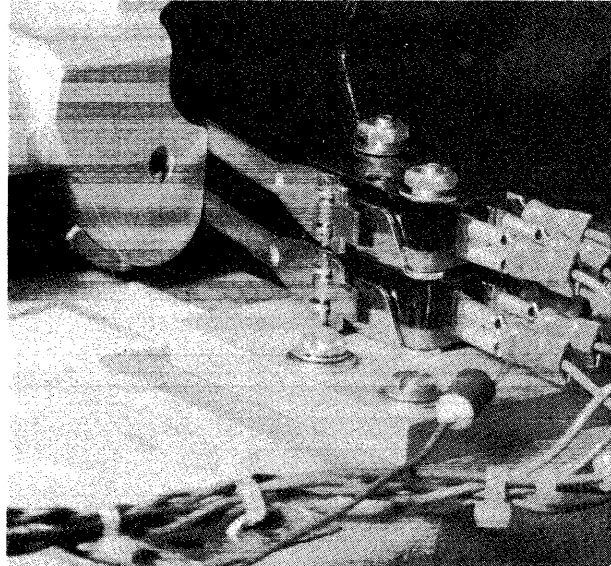

Figure 5-59. Heads-Extended Microswitches
- d. If not enough adjustment in mounting plate to achieve desired microswitch operation, microswitch lever arms may be formed to achieve desired results (see Figure 5-59).